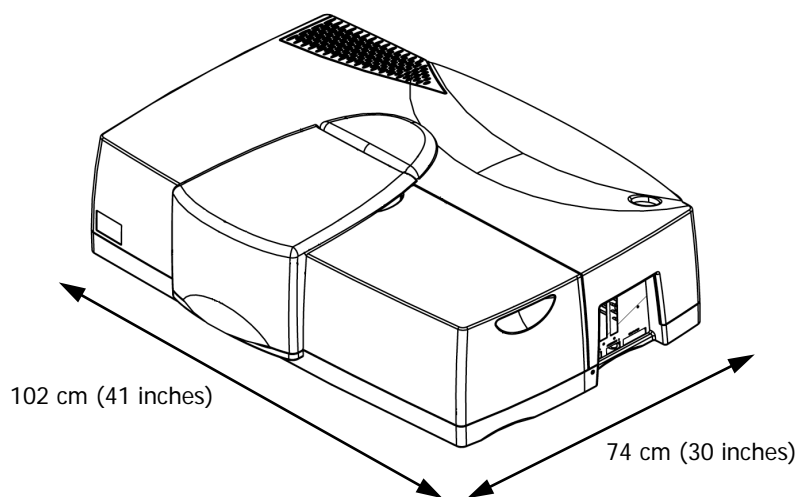

Figure 9 Space requirements
- Enough space around and underneath the instrument for efficient air circulation, as shown in Figure 9;